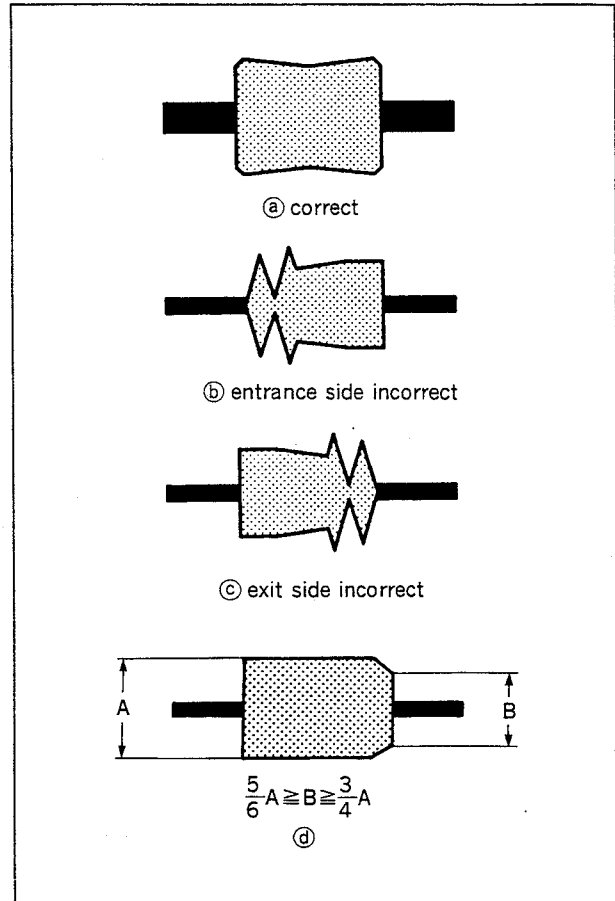

Fig. 6-4 RF wave shape check
Check to see that RF wave shape is flat in both entrance side and exit side of drum (as shown in Fig.6-4 (a) ).
Check to see that RF wave shape at exit side meets the specifications shown in Fig.6-4 (d). If it does not meet, go to the adjustments that follow.
- If the RF wave shape at entrance side is not flat as shown in Fig.6-4 (b), go to section 6-2. Tape Entrance Side Adjustment.
- If the RF wave shape at exit side does not meet requirements of above articles (1) and (2) as shown in Fig.6-4 (c), go to section 6-3 Tape Exit Side Adjustment.